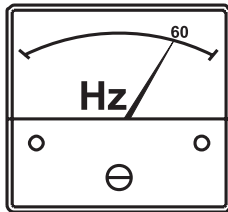

Figure 52. Frequency Meter
5. The generator's **frequency meter** (Figure 52) should be displaying the 60-cycle output frequency in **HERTZ**.